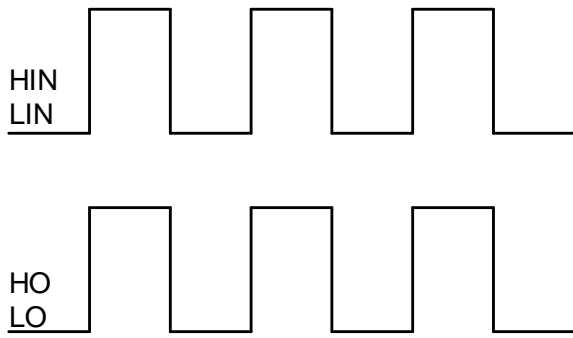

Figure 1. Input/Output Timing Diagram
**Note:** The input/output logic timing diagram is shown in Figure 1. For proper operation the device should be used within the recommended conditions. The VS offset rating is tested with all supplies biased at a 15 V differential.
Page 1	Remove "Fig 1." and update the typical application circuit Remove "November 2015"